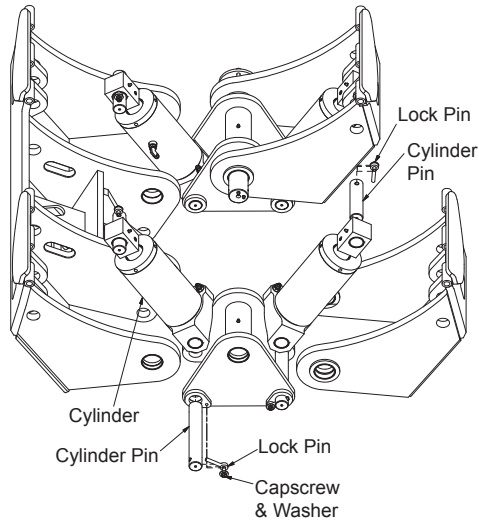

Figure 5-36, Pivot Pin Retainers
3. Remove the pivot pin retainers and cylinder. (Figure 5-36)